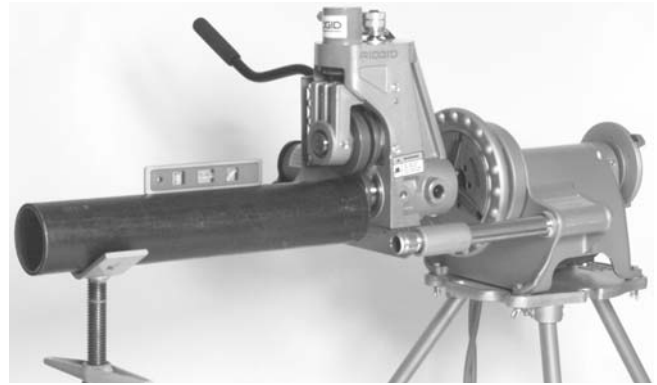

Figure 11 – Leveling Pipe on Pipe Support and 918
4. Level pipe by adjusting pipe stand. (Figure 11)